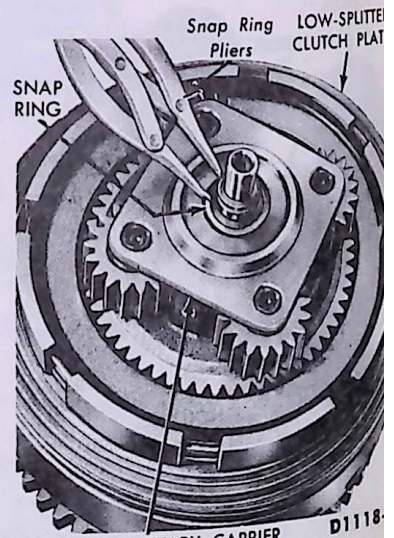

FIG. 50 Splitter Planetary Snap Ring Removal
3. Remove the thrust washer from the front of the splitter planetary carrier assembly, then remove the snap ring which holds the splitter planetary carrier assembly to the splitter output shaft assembly (Fig. 50).